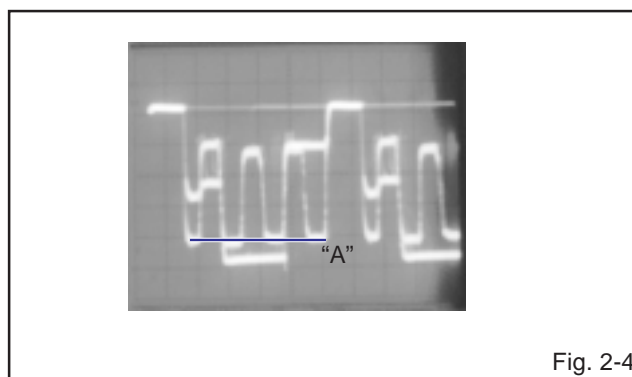

Fig. 2-4
5. Press the VOL. UP/DOWN button on the remote control until the section "A" becomes as straight line. **(Refer to Fig. 2-4)**